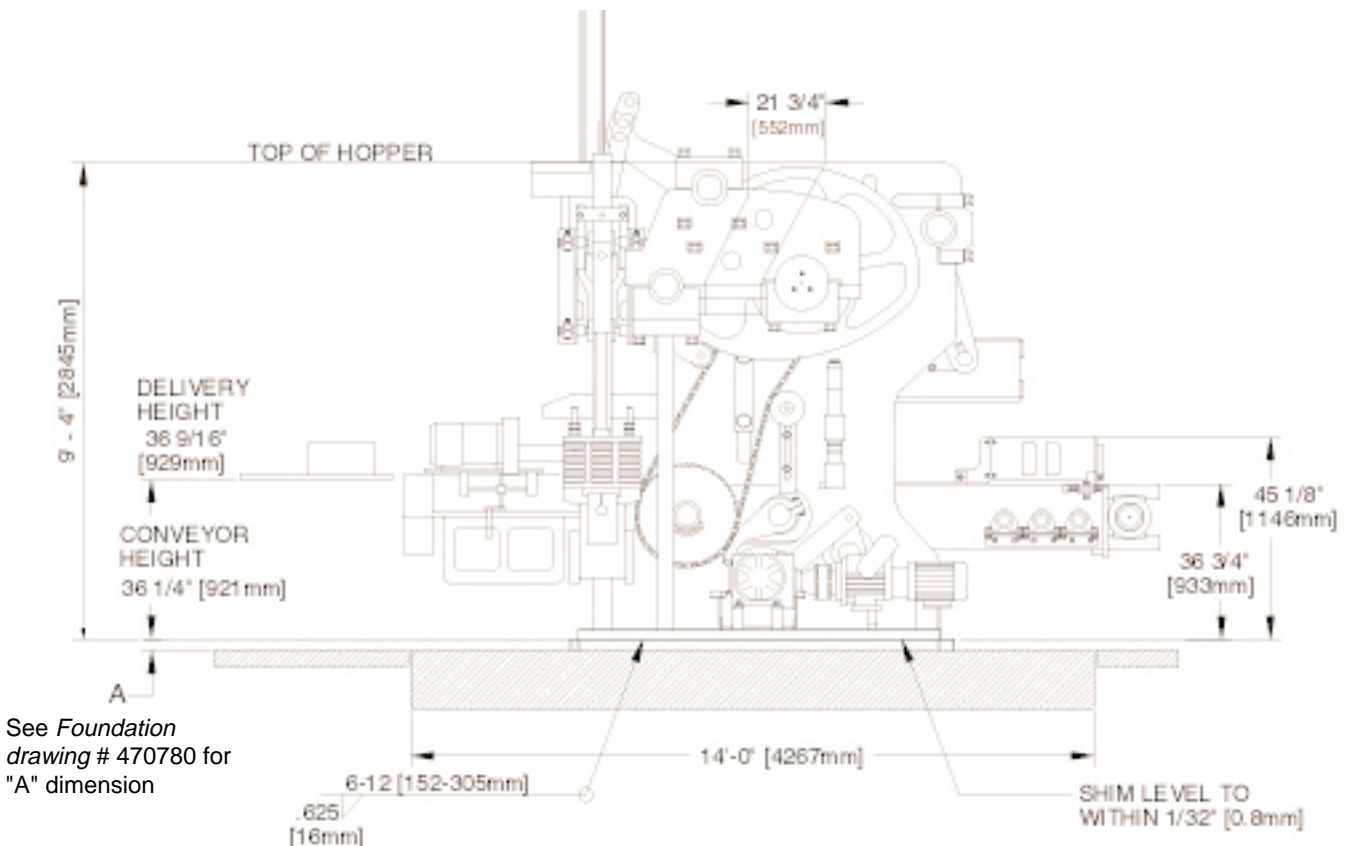

Figure 1.7 RIGHT SIDE ELEVATION.
5. Level machine using machined area next to side plates to within 1/32" [0.8mm]. Use 6" [152mm] shim every foot [305mm]. Check machine vertical level on both slide shafts (must be plumb both ways). Refer to figures 1.7 and 1.8.
6. Weld machine to steel with 5/8" [16mm] skip weld. Make sure machine stays aligned with center line during welding. Weld over the shims. Refer to figure 1.7 and 1.8.